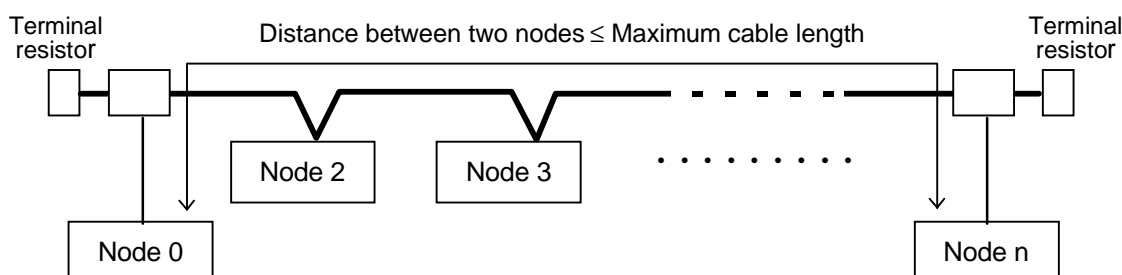

Figure 1.6 Distance Between Two Nodes on a Network with Drop Lines
- b) Figure 1.6 shows the **maximum distance between two nodes** in the case that a Thick Cable or Thin Cable alone is used for the trunk line and that drop lines are used.
For Figure 1.6, the maximum trunk line length between node 0 and node n is equal to the maximum cable length (value in Table 1.2) minus total length of drop lines for node 0 and node n.